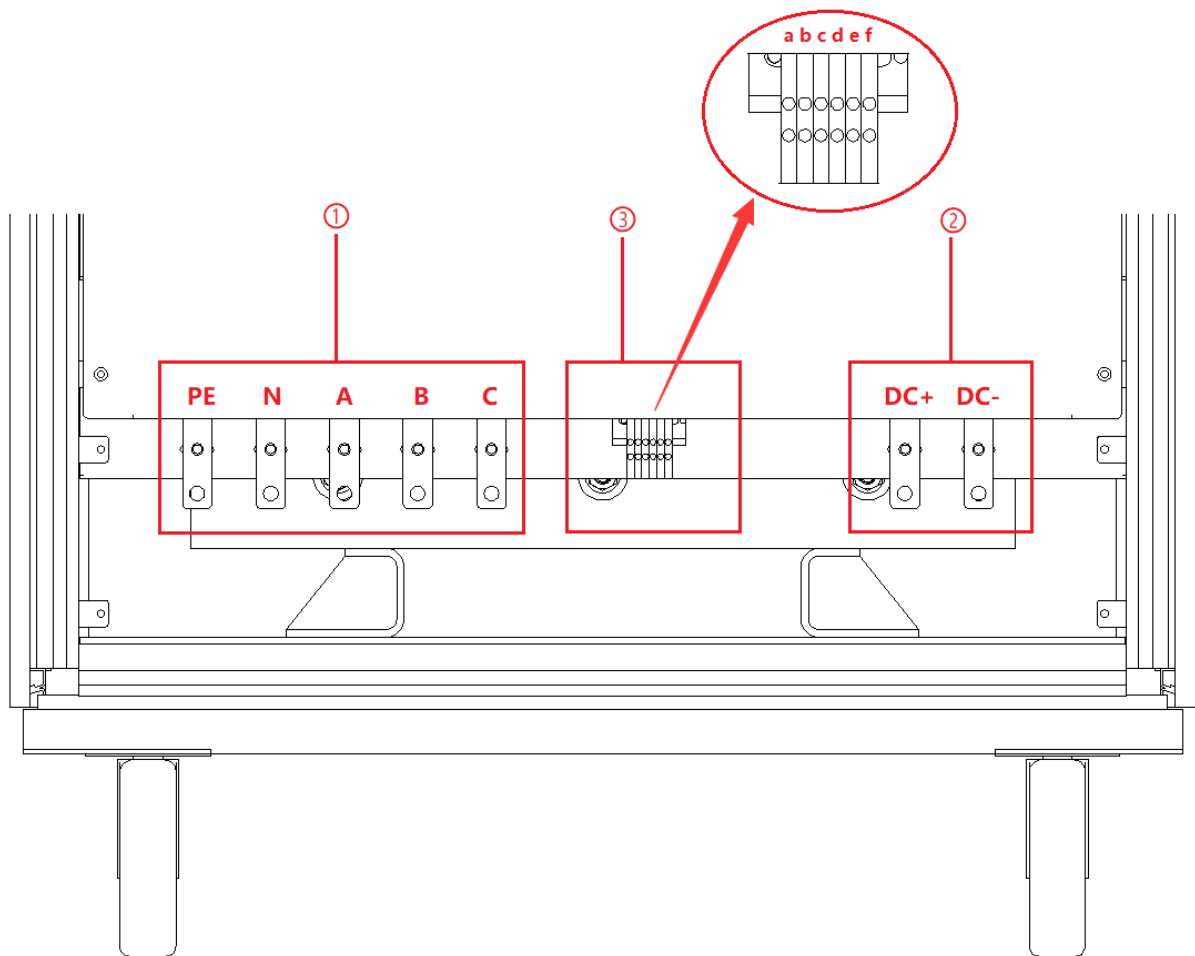

Figure 1-6 Power input / output
The power input/output wiring copper bar, 220V auxiliary terminal, external emergency stop, remote sense interface, etc. are showed when remove the bottom baffle, as shown in Figure 1-6.
When the output voltage of the power supply is $\geq 800V$, the position of the terminal strip (Figure 1-6③) may change due to the clearance and creepage distance.